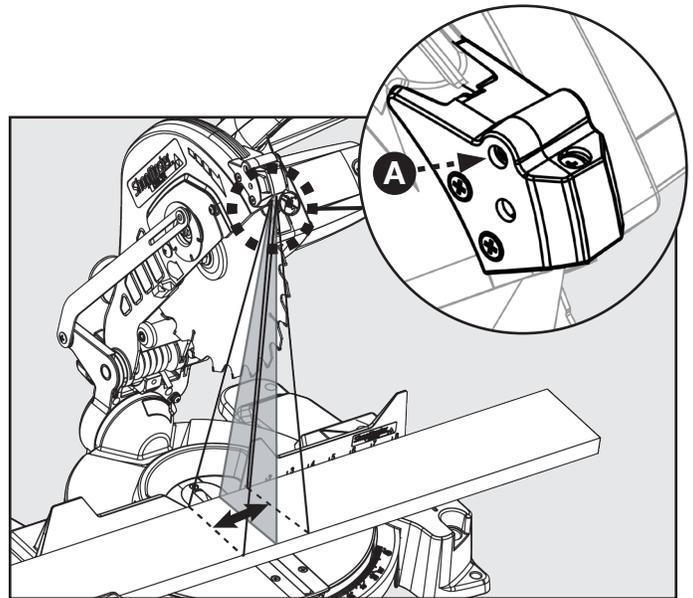

FIGURE 24
If you notice the laser line is offset from the actual cut line refer to Figure 24 and follow these instructions: using a Phillips head screwdriver turn the screw (A) to adjust the offset.